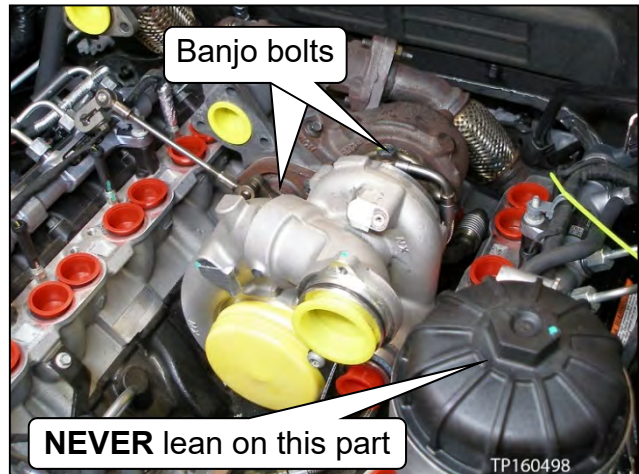
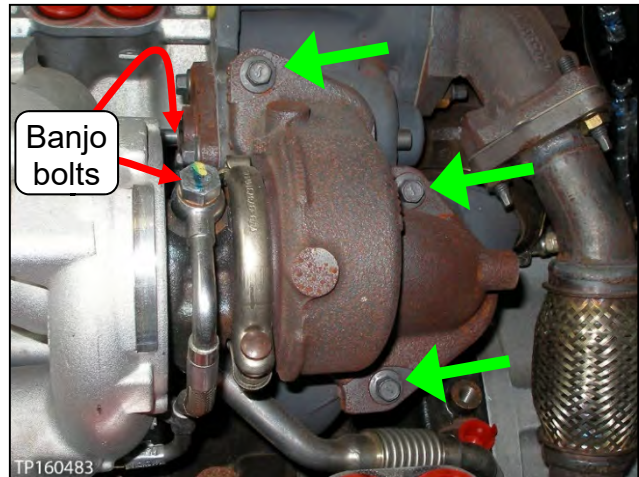

Figure 63
Figure 64
5. Position the new high pressure turbocharger on the low pressure turbocharger (see Figure 63).
- c. Loosely install the three (3) bolts (see Figure 64).
CAUTION: Do not lean on the stage 2 fuel filter assembly at any time while it is unbolted (see Figure 63).
6. Remove the tape, and then install both banjo bolts finger tight with new copper gaskets (see Figure 64).
- The “low pressure” banjo bolt cannot be seen in Figure 63 or Figure 64.